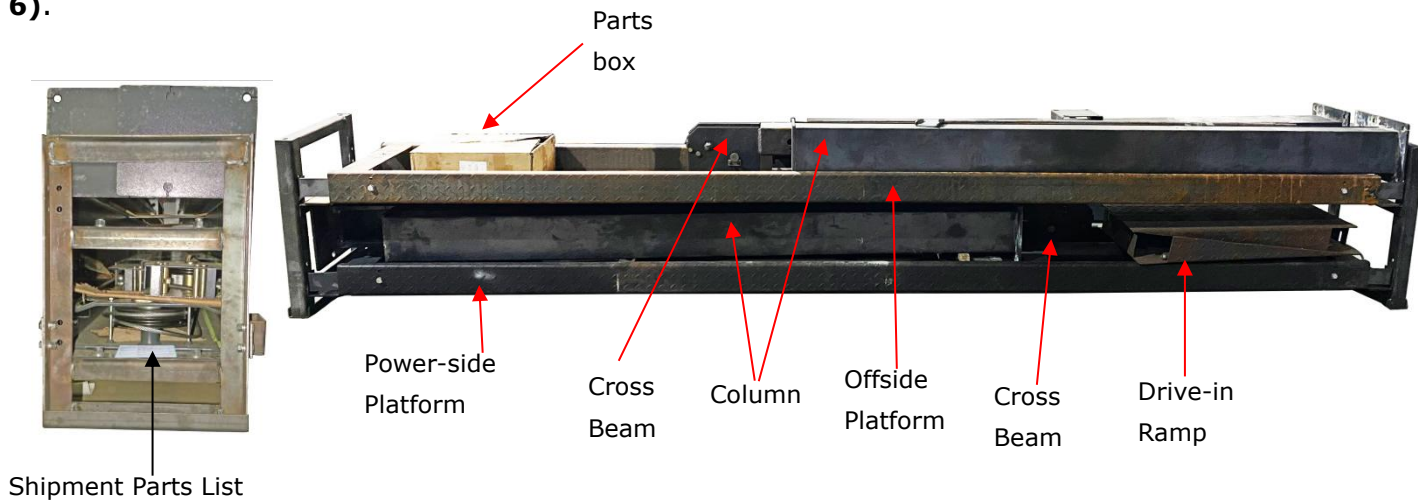

Fig.6
2. Open the outer packing carefully, check the parts according to the shipment list. (See Fig. 6).